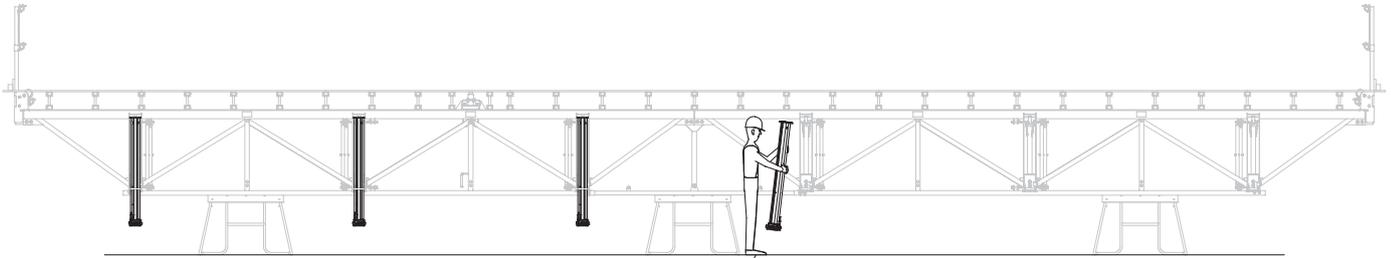
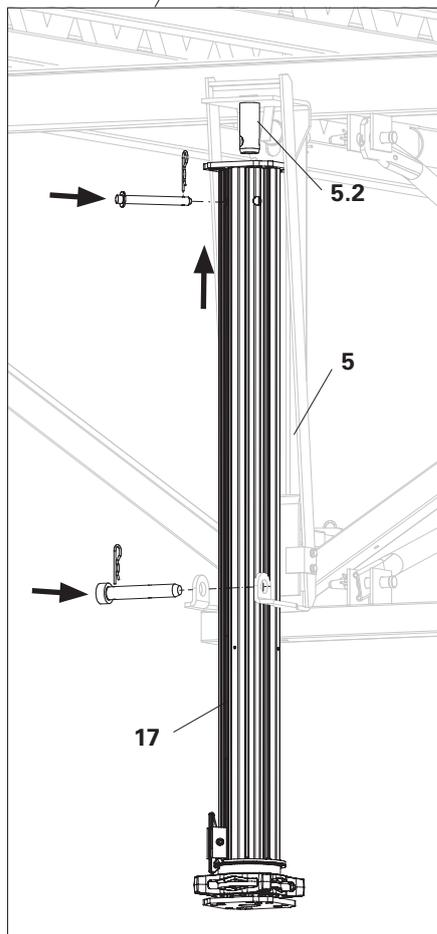

Fig. A2.21
Fig. A2.21.1
1. Position SKYTABLE table on an assembly aid, e.g. MULTIPROP towers or assembly support. (Fig. A2.21)
2. Retract MULTIPROP slab prop (17) into the spigot (5.2) of the Quick Lowering Device (5).
3. Secure at top and bottom by means of pins and cotter pins. (Fig. A2.21.1)